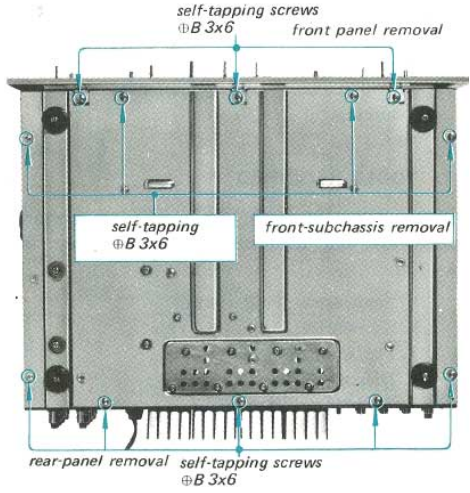
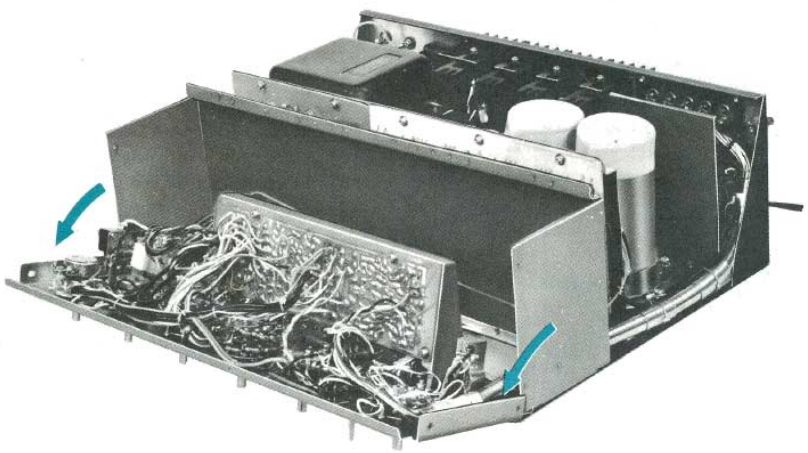
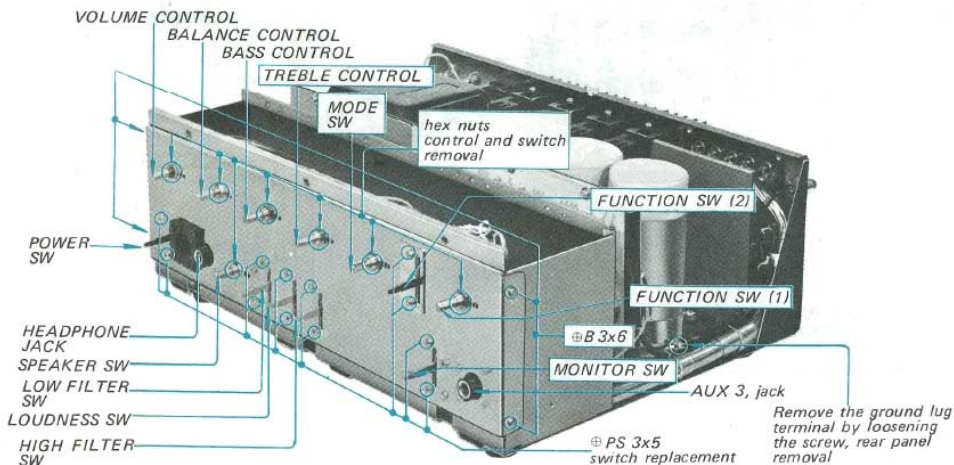
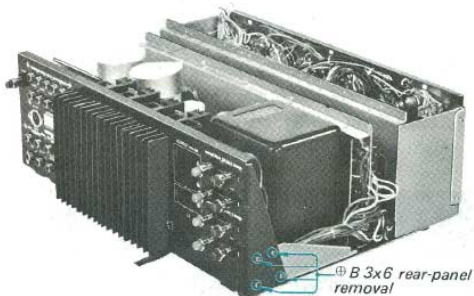

Fig. 2-3 Bottom view
Fig. 2-4 Front subchassis removal
Fig. 2-5 Control and switch replacement
Fig. 2-6 Rear panel removal
4. Remove the three self-tapping screws (+B 3x6) at the front bottom of the chassis as shown in Fig. 2-3. This frees the front panel.
2. Remove the two screws ($\text{B } 3 \times 6$) at each side of the chassis (see Fig. 2-5) and four self-tapping screws ($\text{B } 3 \times 6$) at the front bottom of the chassis as shown in Fig. 2-3. This frees front subchassis as shown in Fig. 2-4.
1. Remove the two screws (\oplus PS 3x5) securing switches to the front subchassis as shown in Fig. 2-5.
1. Remove the hex nuts that secure the switches or controls to the front subchassis as shown in Fig. 2-5.
2. Remove the four screws (\oplus B 3x6) at each side of the chassis (see Fig. 2-6) and five self-tapping screws (\oplus B 3x6) at the rear bottom of the chassis as shown in Fig. 2-3.
4. Remove the ground lug terminal by loosening the screw securing the electrolytic capacitor (C923) bracket to the chassis as shown in Fig. 2-5.